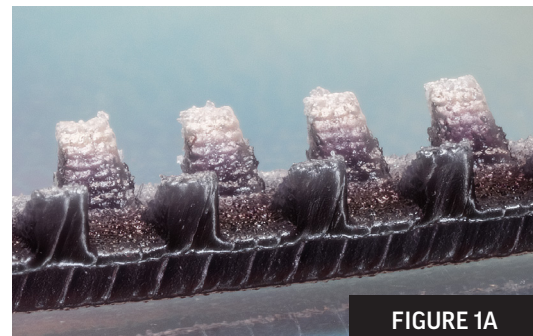

FIGURE 1A
3D-Printing is “100% Process”, meaning the process converts engineering data directly into three-dimensional products, using a projectile printing technology like inkjet printing, the technology used in document printers. No form tool is used to create the shape of the finished part, so all locational and tolerance-based requirements are dependent on the accuracy and repeatability of the process delivering the projectiles to the correct locations. This is a tall order in the “Macro-world”, but it is a tremendous challenge in the “Micro-world”, as the photos show in Figures 1a and 1b.
**FIG. 1A, 1B:** Photo 1a shows a customer design, with the plastic part being created using 3D-Printing technology. Photo 1b shows a Micromolded version of the same part exhibiting sharp, well-defined corners on repeating sets of stair-step features.
To clarify the dilemma in terms of the loss of feature definition, a quick visual comparison of the two parts shown in Figures 1a and 1b illustrates the problem. A considerable difference exists between the clarity of the features created using 3-D Printing and Micromolding. In this case, the 3-D Printed parts were formed using a new high-precision printer operating at only a 16 $\mu$  thick deposition layer and 25 $\mu$  off-set. The expectation was that this new process would provide very close parity with the Micromolded features.